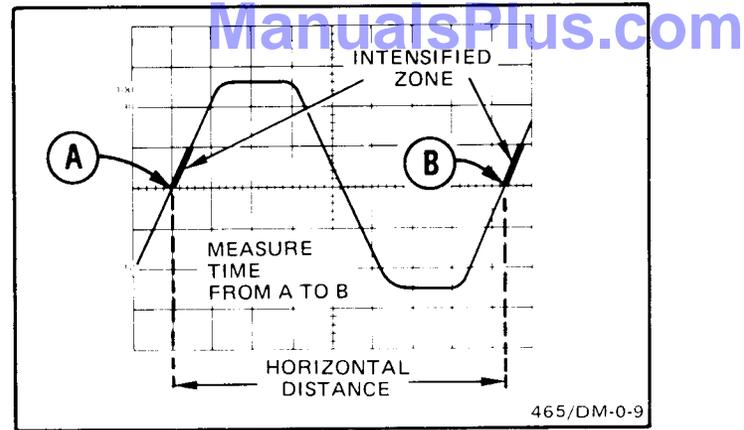

Figure 43. Time duration using delayed sweep.
3. For the most accurate measurements, set the B TIME/DIV switch to the fastest sweep rate that provides a usable (visible) intensified zone. Vertically position the A trace to place the time-measurement point on the waveform at the center horizontal graticule line (see Figure 43).
4. Ensure that the B Trigger SOURCE switch is set to STARTS AFTER DELAY. Use the DELAY TIME POSITION control to move the start of the intensified zone so that it just touches the intersection of the signal and the center horizontal graticule line (see Figure 43, point A).
6. Rotate the DELAY TIME POSITION control to move the start of the intensified zone to the second time-measurement point (see Figure 43, point B).
EXAMPLE: The time duration for one cycle (Figure 43, point A to point B) is 16.66 ms.